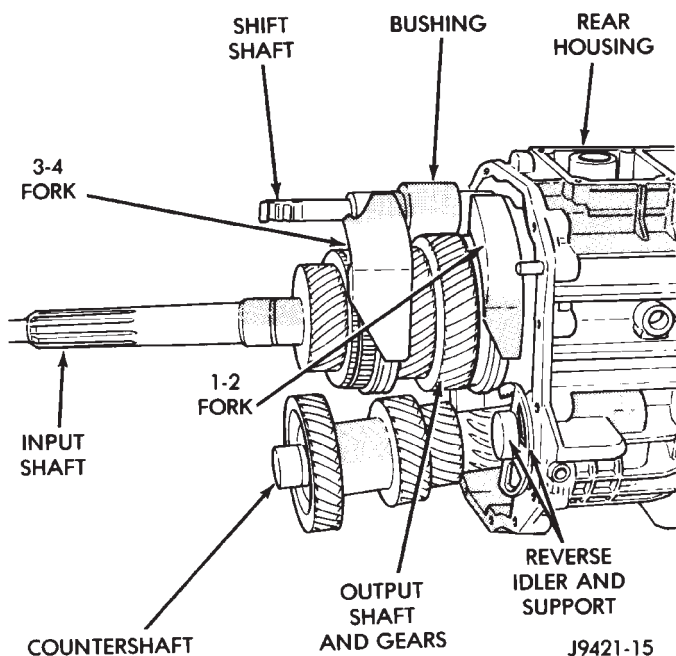

Fig. 19 Geartrain And Shift Component Identification
(16) Note position of input shaft, shift shaft and forks, and geartrain components in housing (Fig. 19).